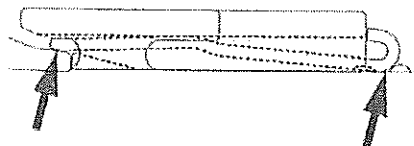

Fig. 53-Correct position of IFAST spring
- Check the position of the spring. The toe of the IFAST spring has to be on the stock rail foot, the rear end needs to be secured by the embossment, Fig. 53.